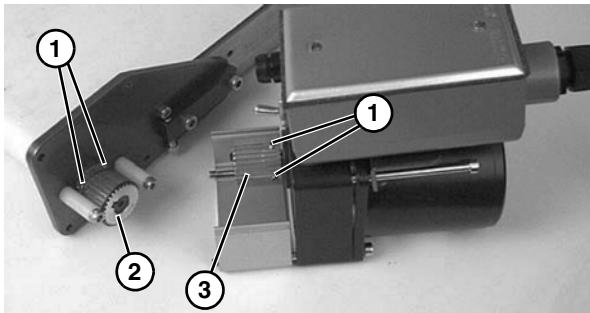

Figure 58
2. Loosen set screws (**Figure 58, item 1**) and remove driven pulley (**Figure 58, item 2**) or drive pulley (**Figure 58, item 3**).